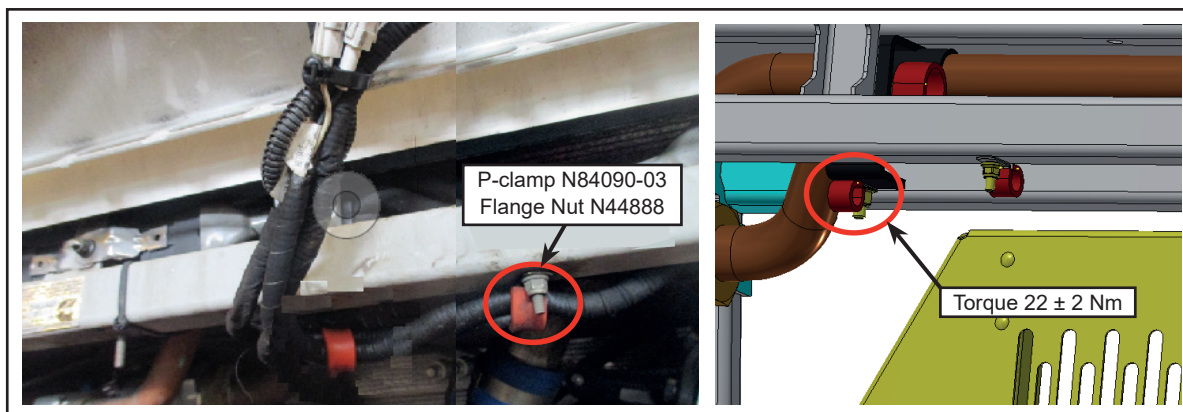

Figure 11 - Installation of P-clamp and Flange nut
- 1.13. Add a p-clamp P/N N84090-03 to secure with a flange nut P/N N44888 to the open stud approximately 4 inches toward the street side (see figure 11).